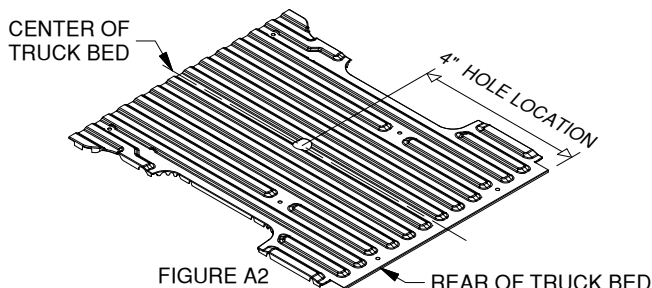

FIGURE A2
5. **Mark the 4" hole location.** Using a tape measure hooked over the rear edge of the bed (at tailgate end), measure the location for the hole as shown in Figure A2. Next, locate the center of the bed by measuring the distance between the wheel wells and dividing by two. The center of the hole will be at the intersection of the center of the bed and the first distance measured.